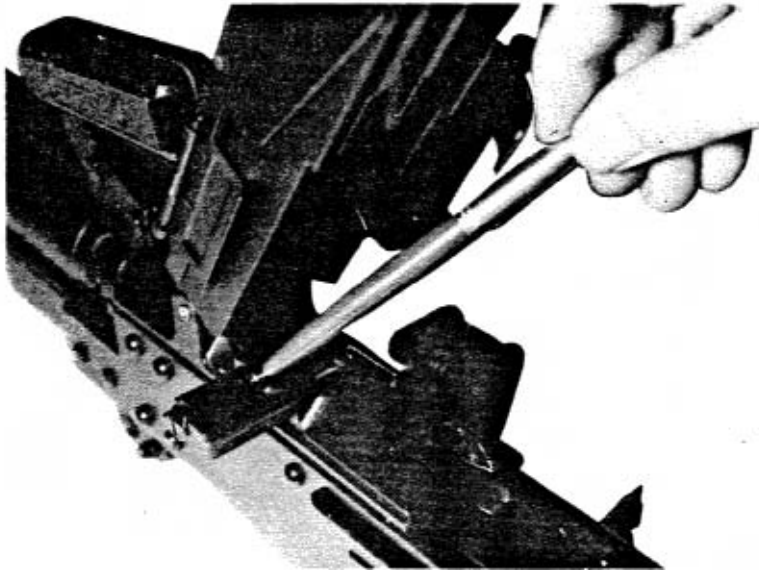
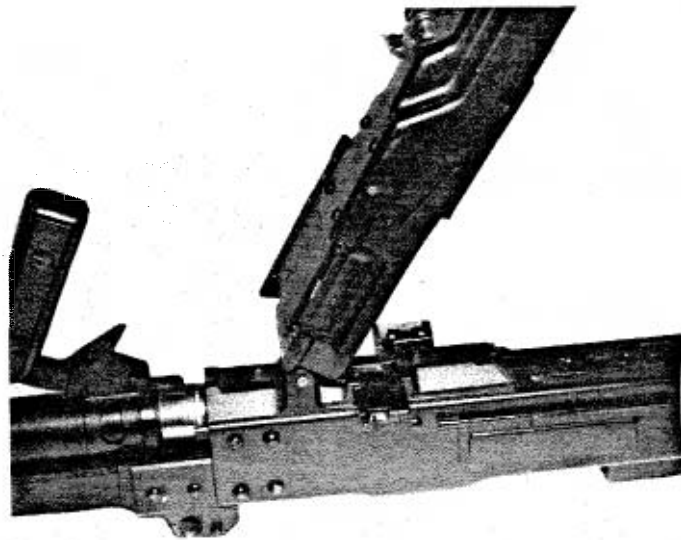
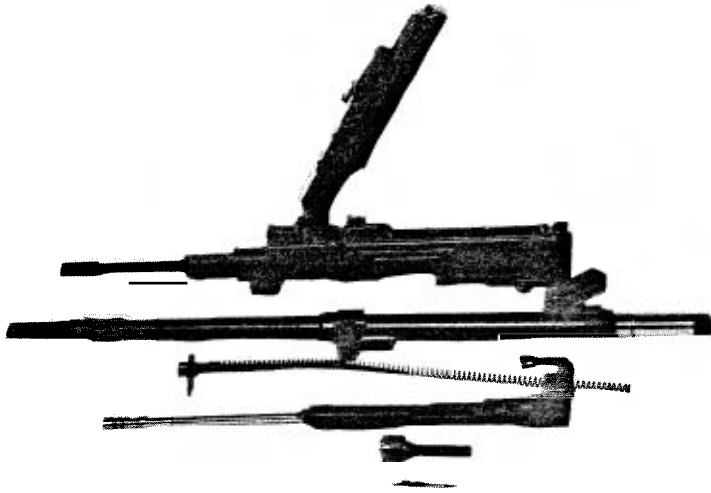

FIG. A-10. BARREL LATCH MOVED TO THE LEFT
FIG. A-11. BARREL DISENGAGED
FIG. A-12 PKT DISASSEMBLED
- i. To remove the barrel, move the barrel latch to the left. (Fig. A-10). Rotate the carrying handle forward and remove the barrel (Fig. A-11). The weapon is now fully disassembled (Fig. A-12).